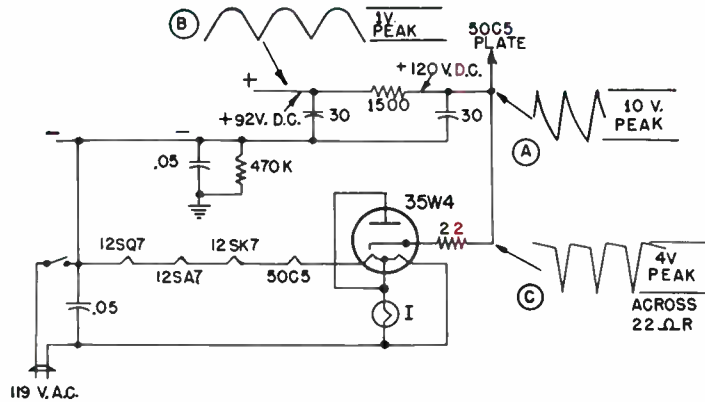
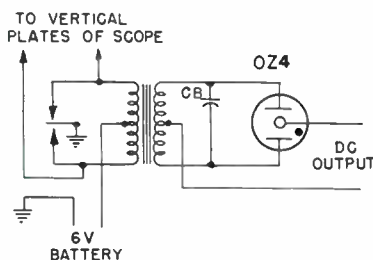

Fig. 1. Typical half-wave transformerless power supply used in a-c d-c radio receivers.
Fig. 2. Non-synchronous vibrator power supply illustrating the oscillograph connections necessary to obtain voltage waveforms.
Fig. 2. Current and voltage waveforms illustrating trace and retrace time in A with transient voltage oscillations in B and the distortion due to these oscillations in C. The effect of damping tube conduction is shown in 1, 2 and 4 of D and output tube conduction in 3, 5 and 6. The resultant current damping waveform illustrating the effect of proper damping is shown in E.
If the .0022 mfd capacitor in Fig. 2, located between the plate coil and the high voltage coil opens up, the voltage will drop to the point where no brightness is visible. If this condenser is suspected, bridge it with a good .002 mfd mica. This condenser provides a path for the 15,750 e.p.s. voltage across R1 the 470 K ohm protective resistor.
Fig. 1 illustrates such a supply as used in the General Electric Model 123 receiver. The wave shapes and peak voltages as shown in the illustration were obtained by connecting a calibrated scope across the input filter condenser for curve (A), across the output filter condenser for curve (B) and across the 22 ohm peak current limiting resistor for curve (C). These three curves are for the normal operating condition of the receiver with an a-c line voltage of approximately 119 volts.
Another very useful function of the scope is in checking car radio power supplies for correct functioning of the vibrator and buffer condenser. Figs. 2 and 3 show a typical non-synchronous vibrator power supply with the voltage waveforms in Fig. 2 and current waveforms in Fig. 3. In connecting the scope as shown in Fig. 3, the hot lead should be connected to the battery lead at the set end as we are measuring the peak voltage drop in the connecting lead caused when the vibrator draws a pulsating current from the battery.
know about the condition of the vibrator, buffer capacitor and transformer. No voltage measurements are shown on these diagrams as the important information is shown by the shapes. Fig. 1 is the voltage wave from a normally operating supply of the type shown in Fig. 2. Fig. 5 was obtained by substituting a buffer condenser, CB in the diagrams, of too low a value. A vibrator with worn or bouncing contacts will also cause a waveform similar to Fig. 5 and often can be identified by the fact that the positive and negative shapes will be different due to the difference in vibrator action on one side and the other.